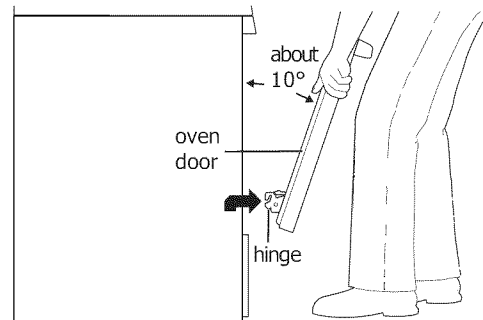

Figure 46: Holding door for removal
3. Firmly grasp both sides of oven door along the door sides. Do not use the oven door handle (See Figure 46).
4. Close the door to 10 degrees from the door frame (See Figure 46).
5. Lift the oven door hinge arms over the roller pins located on each side of the oven frame (See Figure 46).
1. Firmly grasp both sides of oven door along the door sides. Do not use the oven door handle (See Figure 46).
2. Holding the oven door at the same angle as the removal position (See Figure 46), seat the hook of the hinge arm over the roller pins located on each side of the oven door frame (See Figure 47). The hook of the hinge arms must be fully seated onto the roller pins.